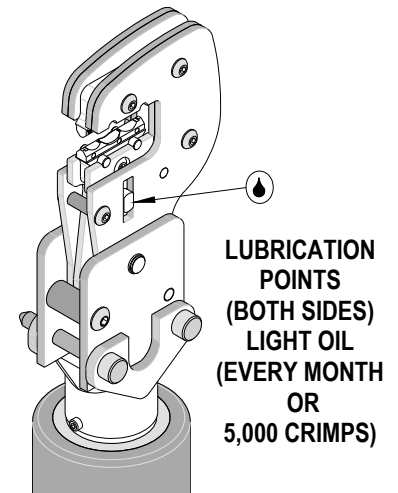

Figure 6A
3. Make certain all pins; pivot points and bearing surfaces in the tool head are protected with a thin coat of high quality machine oil. Do not oil excessively. This tool was engineered for durability, but like any fine piece of equipment, it needs cleaning and lubrication for a maximum service life of trouble-free crimping. The use of light oil, such as 30 weight automotive oil, every 5,000 crimps or monthly, will significantly enhance the tool life and ensure a stable calibration. See Figure 6A or 6B for lubrication points.